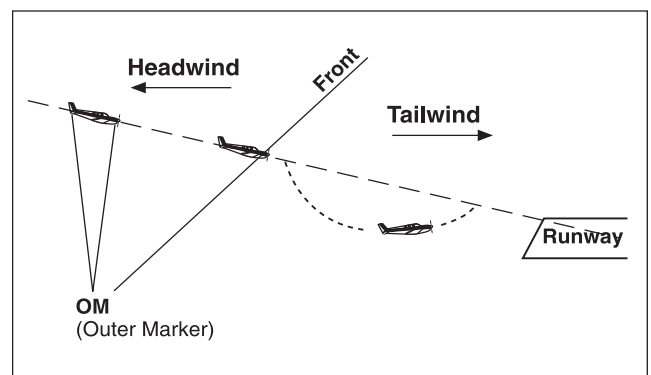

Figure 6-17. Headwind shearing to tailwind or calm
2. **Loss of Headwind** — A headwind may shear to a calm or tailwind component. The decrease in headwind will cause a loss in airspeed equal to the decrease in wind velocity. Initially, the airspeed decreases, the aircraft pitches down, and altitude decreases. See Figure 6-17.